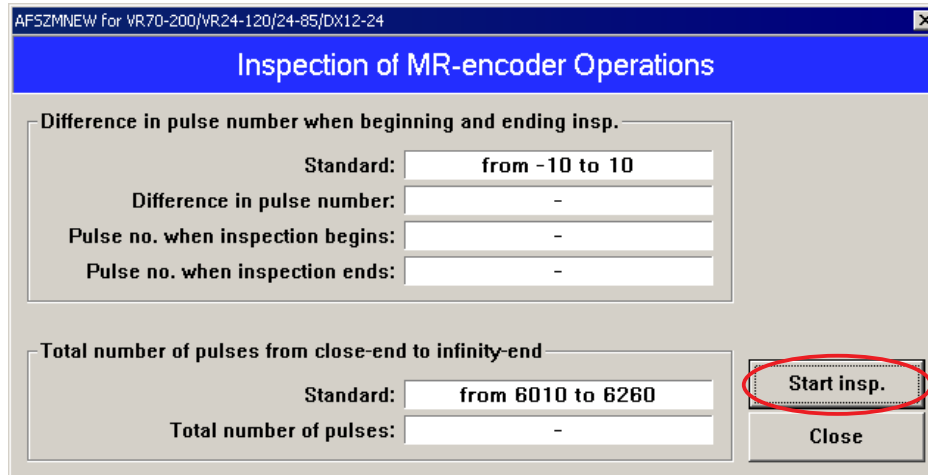

Fig.1
(2) Screen for inspecting MR encoder operation
- ① Click "Start insp." of "Fig.1".